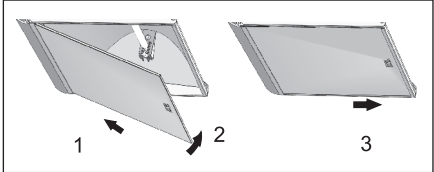

Fig. 12
- 6 Fit the glass sheets to the heat lamp reflector bodies Fig. 12.